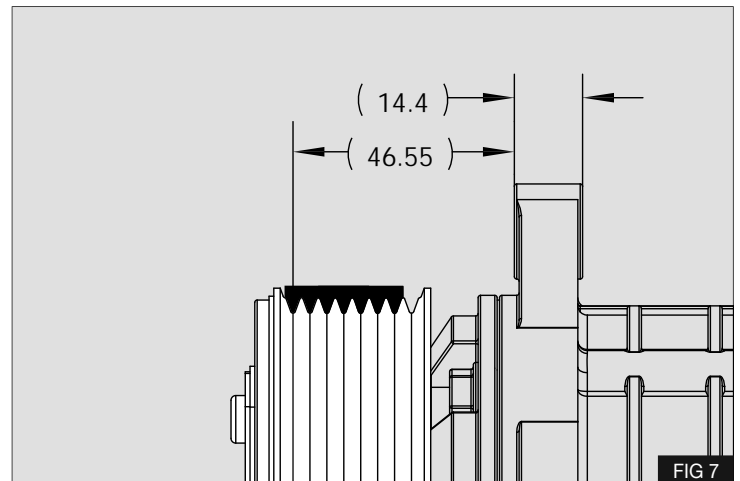

FIG 7
3. Place the belt in the correct groove of the compressor - Fig 7